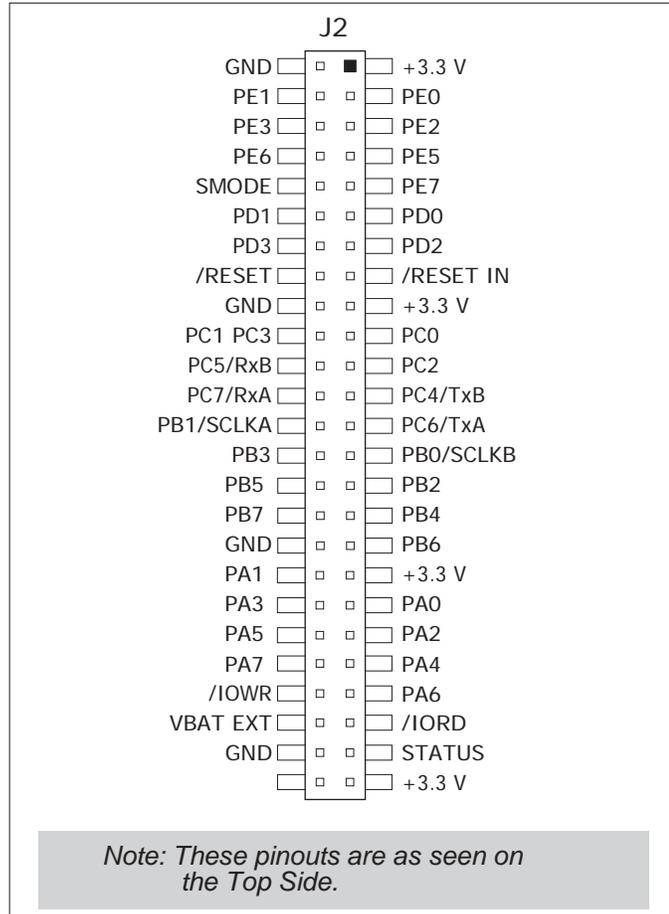

Figure D-4. MiniCore Boards Pinout
- **Module Extension Headers**—The complete pin set of the RCM5600W module is duplicated below header J2. Developers can solder wires directly into the appropriate holes, or, for more flexible development, a 2 × 25 header strip with a 0.1" pitch can be soldered into place. See Figure D-4 for the header pinouts.
The Digital I/O accessory board provides the user with RCM5600W/ RCM6600W connection points brought out conveniently to labeled points below header J2. The pinouts for header socket J2 are shown in Figure D-4.